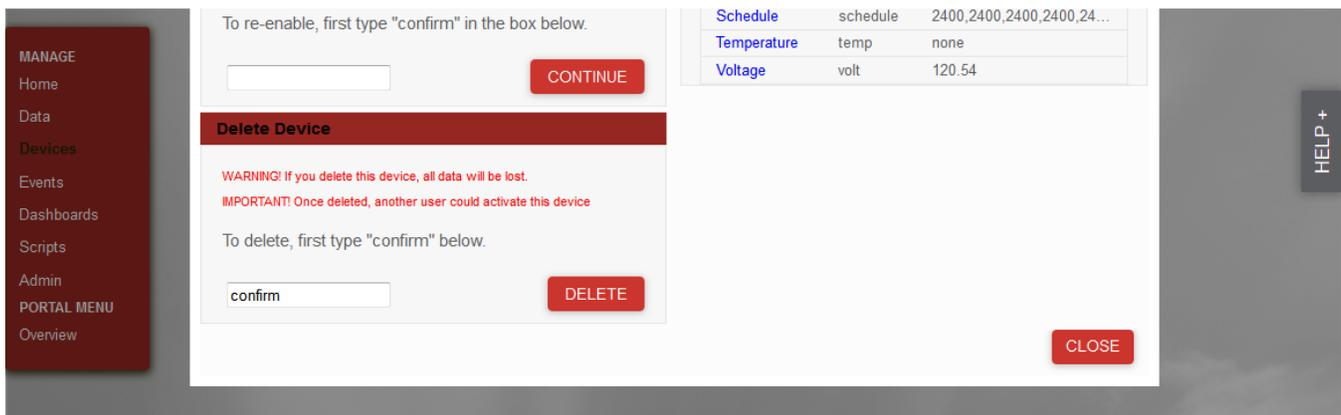

Figure 24. Delete Device from Exosite Website
2. To delete the device from the cloud website, go to the menu on the left side of the page and click "Devices" → your Smart Plug device. Under the "Delete Device" section, type "confirm" in the box and click "DELETE" (see Figure 24).